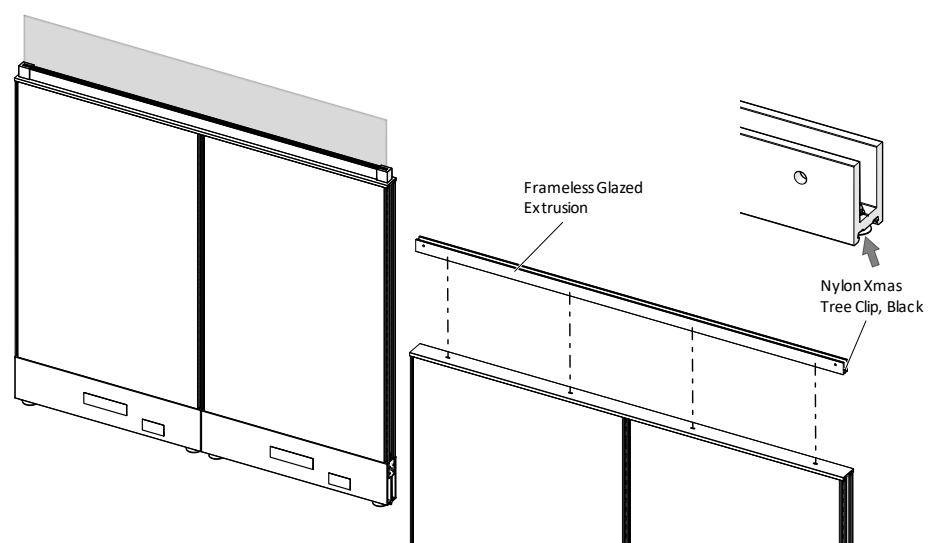

Figure 1
1. Check the panel top mounted glass /acrylic Frameless Glazed Extrusion if there is a Nylon X-mas Tree Clip on both ends before placing it on top of the top trim, (Figure 1).